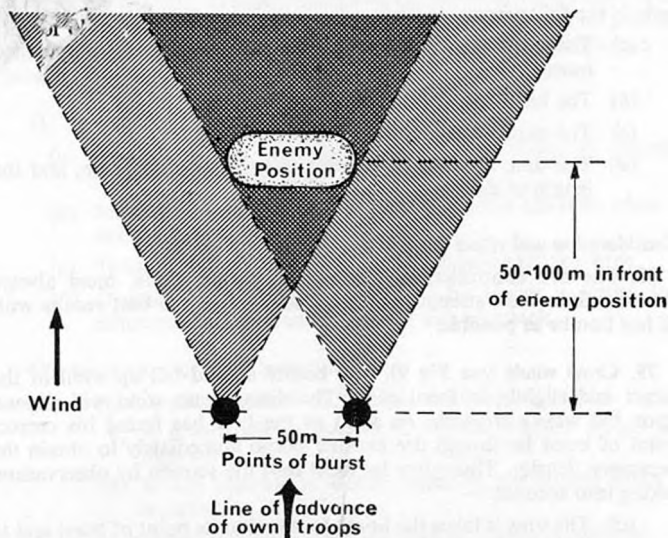

Fig 10.—Use of smoke in a following wind
80. **Following and head winds** (*see* Fig 10). When it is necessary to lay a screen in a following wind, at least two points of burst and therefore more bombs will be required. The distances given are a guide only; they will vary according to the wind's strength and direction.